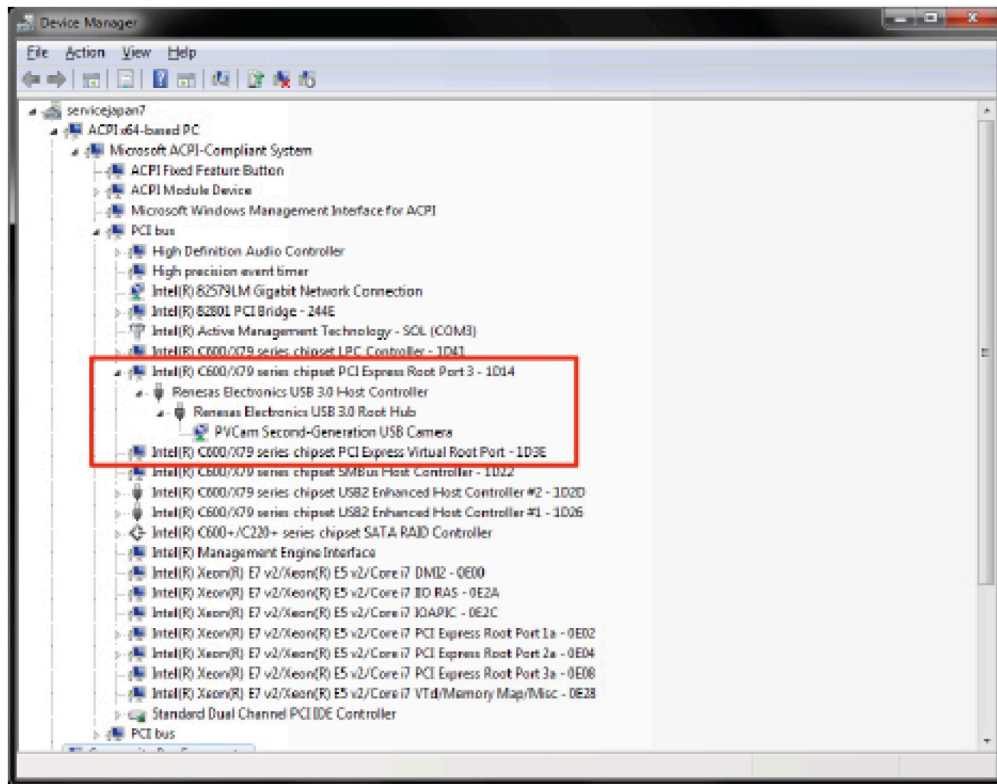

Figure 2. Teledyne Photometrics USB3 camera is the only device on its USB Root Hub.
1. Connect the supplied USB 3.0 cable to the USB 3.0 interface port on your computer and connect the other end of the cable to the USB 3.0 connector located on the back of the camera. (The USB 3.0 interface transfers camera settings and image data to the host PC.) The MicroPublisher 6 camera should be connected to a USB 3.0 port. It should also be the only device on its USB root hub controller (see Figure 2 below). Please see the following section on how to select the appropriate USB port for optimum camera performance. This ensures the maximum bus bandwidth is available to the camera for data transfers. USB 3.0 ports are often (but not always) identifiable by a blue internal socket or the "SuperSpeed" (or just "SS") USB logo.
3. According to Figure 2, find the USB host controllers, expand them, and check whether your camera is the only device connected to the Root Hub.